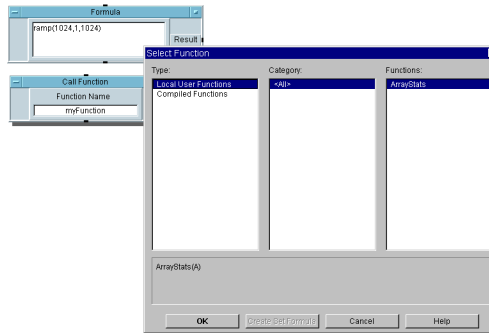

Figure 7-2. Configuring the Pins for Call myFunction
4. Click Device \Rightarrow Call, open the object menu, and click Select Function as shown in Figure 7-2. Then click OK. Notice that VEE renames the object automatically and adds the correct pins.